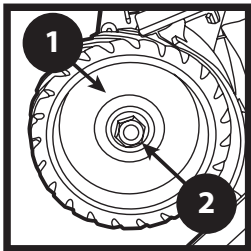

FIGURE 3
1. Open wheel cover door and remove contact wheel with 15/16" socket wrench. (Figure 3)